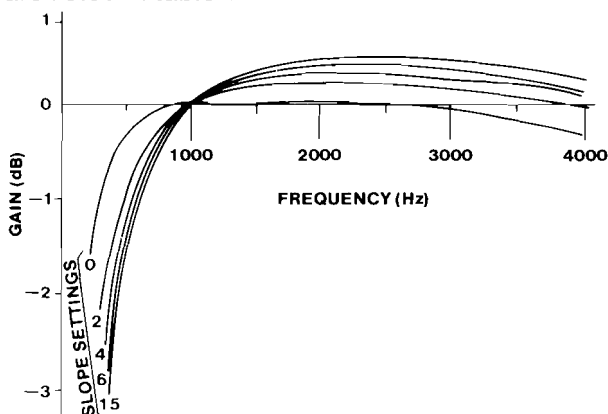
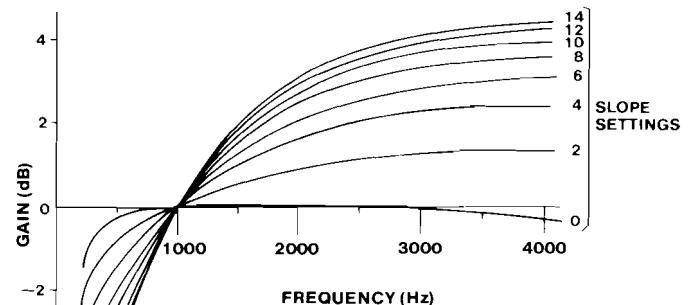

figure 5. Typical response curves for receive-channel equalizer in slope mode, loaded cable
figure 6. Typical response curves for receive-channel equalizer in slope mode, nonloaded cable
2.06 Figures 5 and 6 show typical response curves for the 4001F/02F's equalizer in the slope mode. Figure 5 shows the curves for nonloaded cable, while figure 6 shows the curves for loaded cable. For comparison purposes, all frequency-response curves in figures 5 and 6 are drawn with the same 0dB-gain reference point (1004Hz). In reality, all of these curves except those for a 0 (zero) *SLOPE* switch setting are raised above the 0dB level at 1004Hz by as much as 11.4dB. The exact amount by which a particular curve is raised depends upon the *SLOPE* and *L/NL* (loaded/nonloaded) switch settings selected. These amounts are listed in table 1.